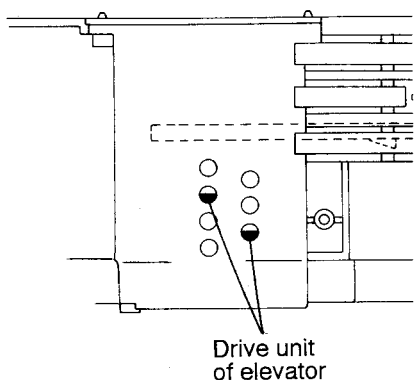
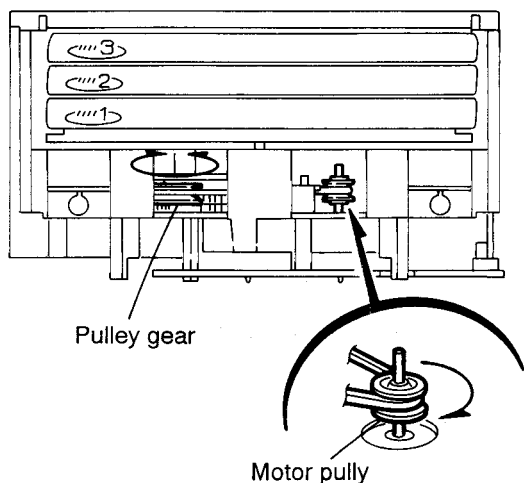

Fig. 5-22a
Fig. 5-23
12. Make sure that the driver unit elevator is positioned as shown in Fig. 5-22a from to the second or fifth hole on the left side face of the CD changer mechanism.
- [Caution]** In case the driver unit elevator is not at the above position, set the elevator to the position as shown in Fig. 5-22a by manually turning the pulley gear as shown in Fig. 5-23.
13. Manually turn the motor pulley in the clockwise direction until the lifter unit stopper is lowered from the section (F) of CD tray assembly (See Fig. 5-23).